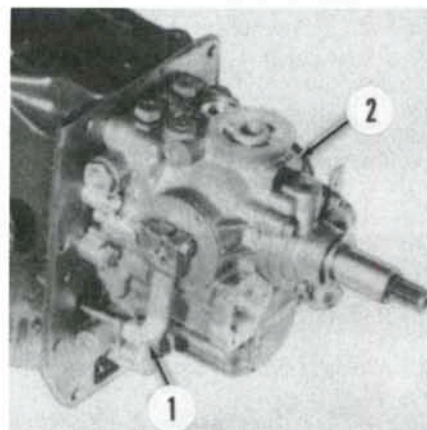

Fig. 186—View of hydrostatic drive unit with clutch housing removed.
cooler inlet and outlet tubes from the filter manifold, then remove the manifold. Unbolt and remove clutch housing from the linkage housing. Remove control lever (1—Fig. 186) from hydrostatic unit (2). Remove cap screws attaching hydrostatic unit to the linkage housing and remove hydrostatic unit.